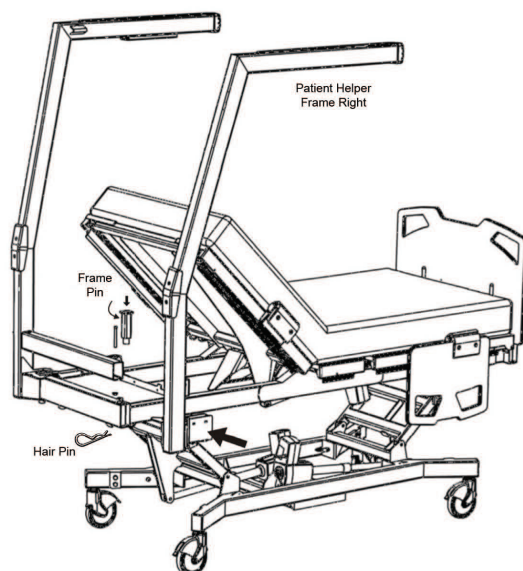

Figure 4
5. Drop (1) frame pin in place securing the trapeze arm to the bed frame (see Figure 4). Secure frame pin with hair pin.